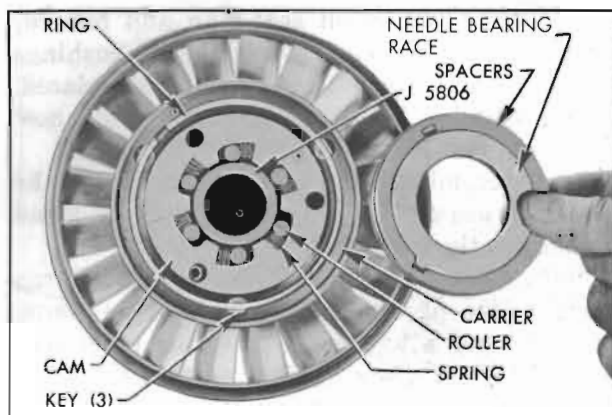

Figure 5-46—Parts in Rear Side of Stator
2. Pry the retaining ring from groove in stator blade rear carrier, and remove free wheel cam and three driving keys. See Figure 5-46.